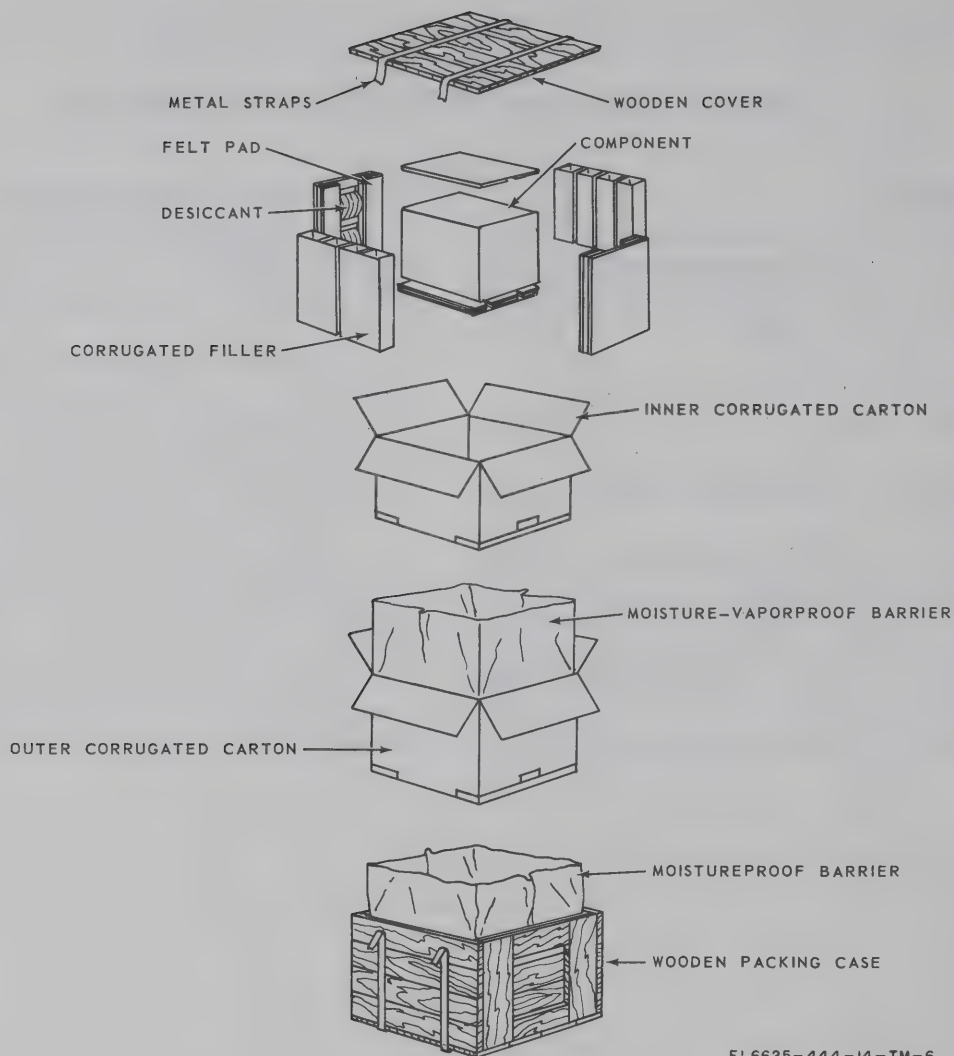

Figure 2-1. Packaging diagram.
*a. Packaging.* When packaged for shipment, the voltmeter is placed in a carton and packed in a wooden box. A typical packaging diagram and its contents are shown in figure 2-1.
- (1) Cut and fold back metal straps.
- (2) Remove nails from top of box and lift off top.
- (3) Remove envelopes that contain manuals and test leads.
- (4) Remove packing around outer carton wrapped in waterproof bag.
- (5) Remove outer carton from box and open moisture-vaporproof barrier and outer carton.
- (6) Open the inner moisture-vaporproof barrier and carton.
- (7) Remove voltmeter from inner carton.